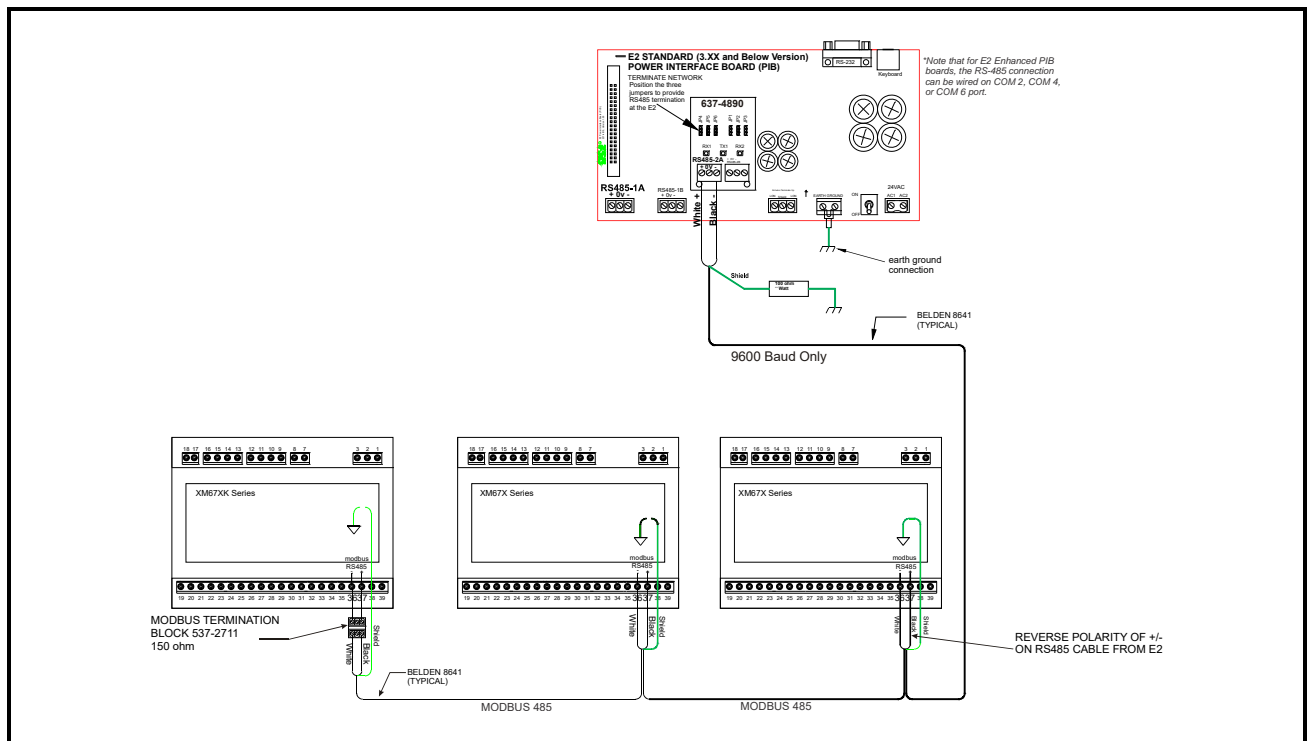

Figure 18-1 - XM670 - XM679 to E2 MODBUS Network Wiring
**NOTE:** If pressure is not being shared across the LAN, each XM679 will need its own Pressure Transducer. Please reference Figure 18-1 and Figure 19-1 wiring diagrams.